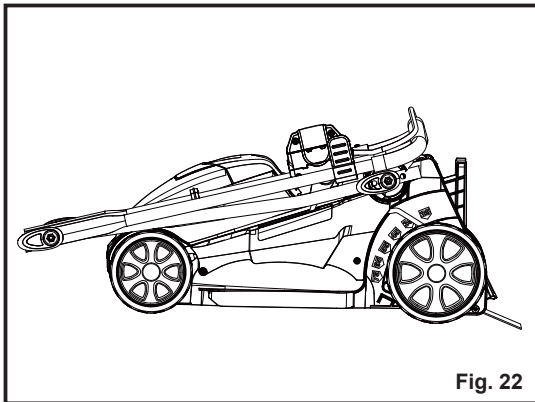

Fig. 22
- Fully loosen the handle locking knobs on the sides of the handle and fold the upper and lower handles down (Fig. 22).